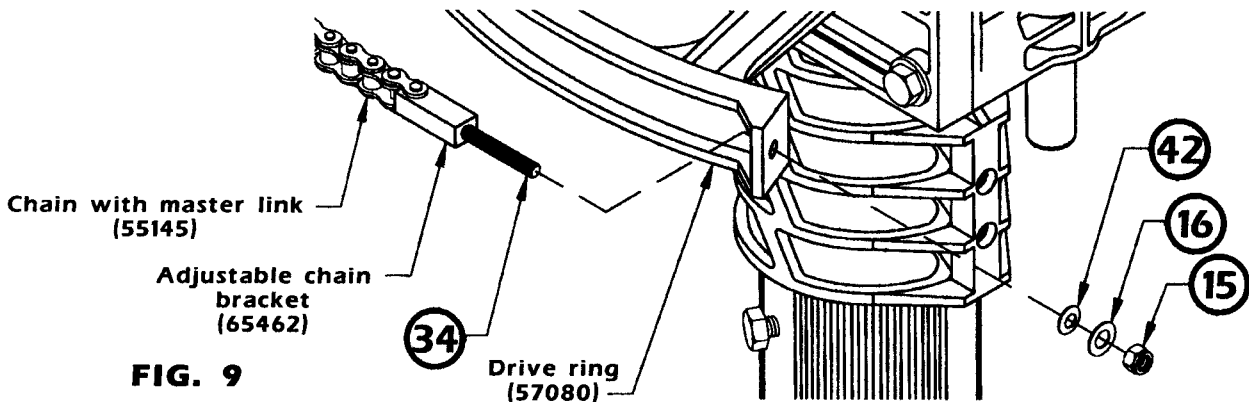

FIG. 9
2. Remove the $\frac{5}{16}$ " nyloc nut, the chain spring washer, and the $\frac{5}{16}$ " USS flatwasher off of the $\frac{5}{16}$ " x 3" stud in the adjustable chain bracket. (See Fig. 9)
using the $\frac{5}{16}$ " nyloc nut, the chain spring washer, and the $\frac{5}{16}$ " USS flatwasher just removed. Adjust the slop out of the chain, making it snug, but not tight. (See Fig. 9)